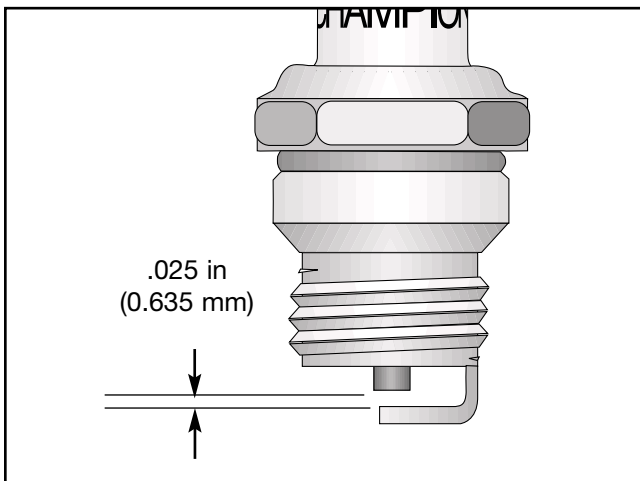

Fig. 33
3. Set the air gap at **.025 in (0.635 mm)** using a *wire feeler gauge* (Fig. 33). Install a correctly gapped spark plug into the cylinder head. Torque to **110-120 in•lb (12.3-13.5 N•m)**.